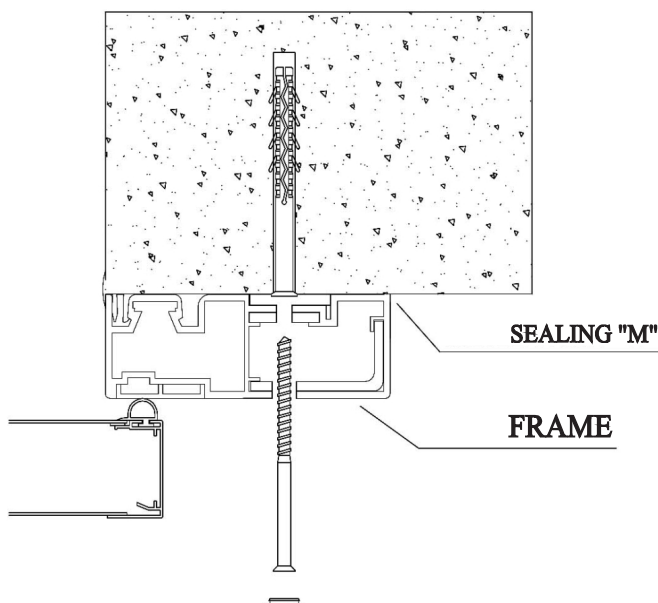

Figure 3
- 6 - SECURE FRAME TO WALL WITH THE FASTNERS (A)
- 7 - SEAL PERIMETER BETWEEN FRAME AND WALL WITH POLYURETHANE FOAM (FIG. 3)